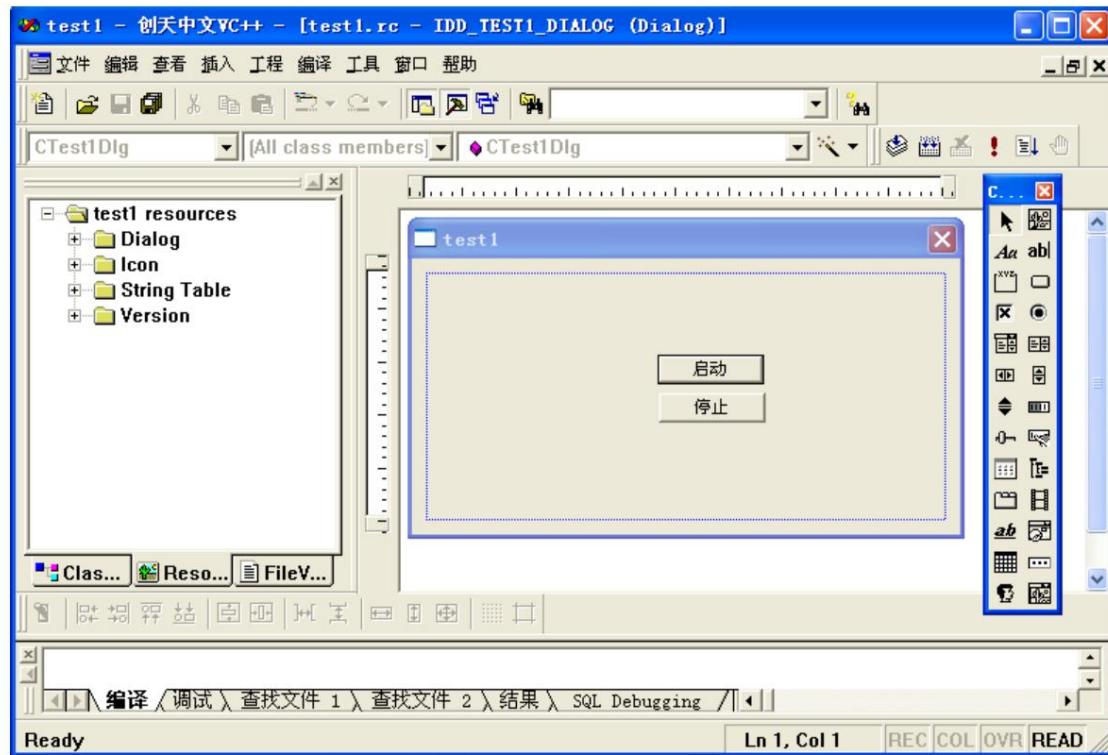

Figure 7-8 Modify dialog
- (6) Select "Dialog-based" in the application type, and press the "Finish" button to create the project;
- (7) Simple for the dialog box modification, adding a button "Start" (named IDC_BUTTON_Start) and Stop (named IDC_BUTTON_Stop), as shown in Figure 7-8: